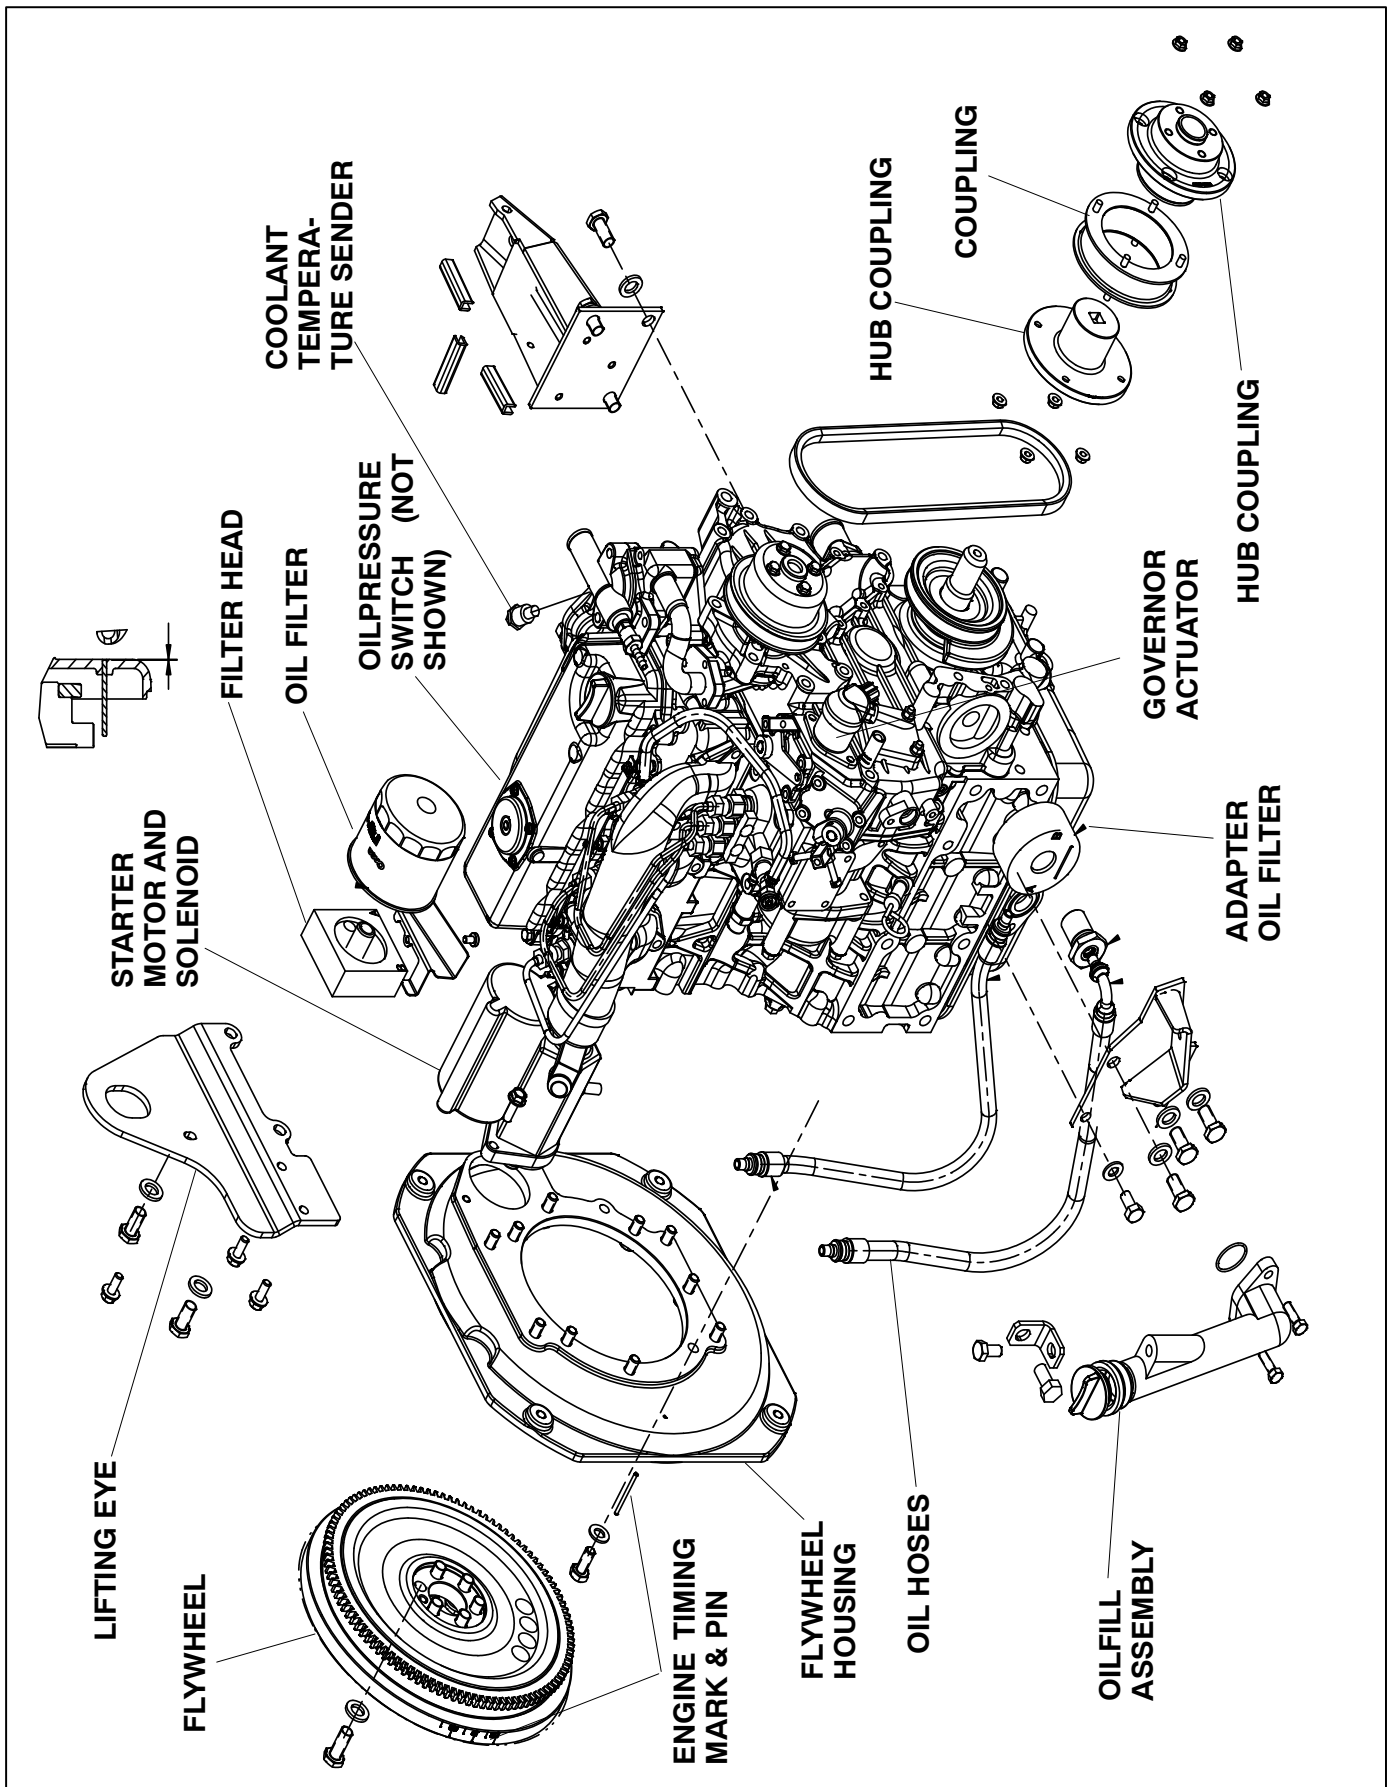
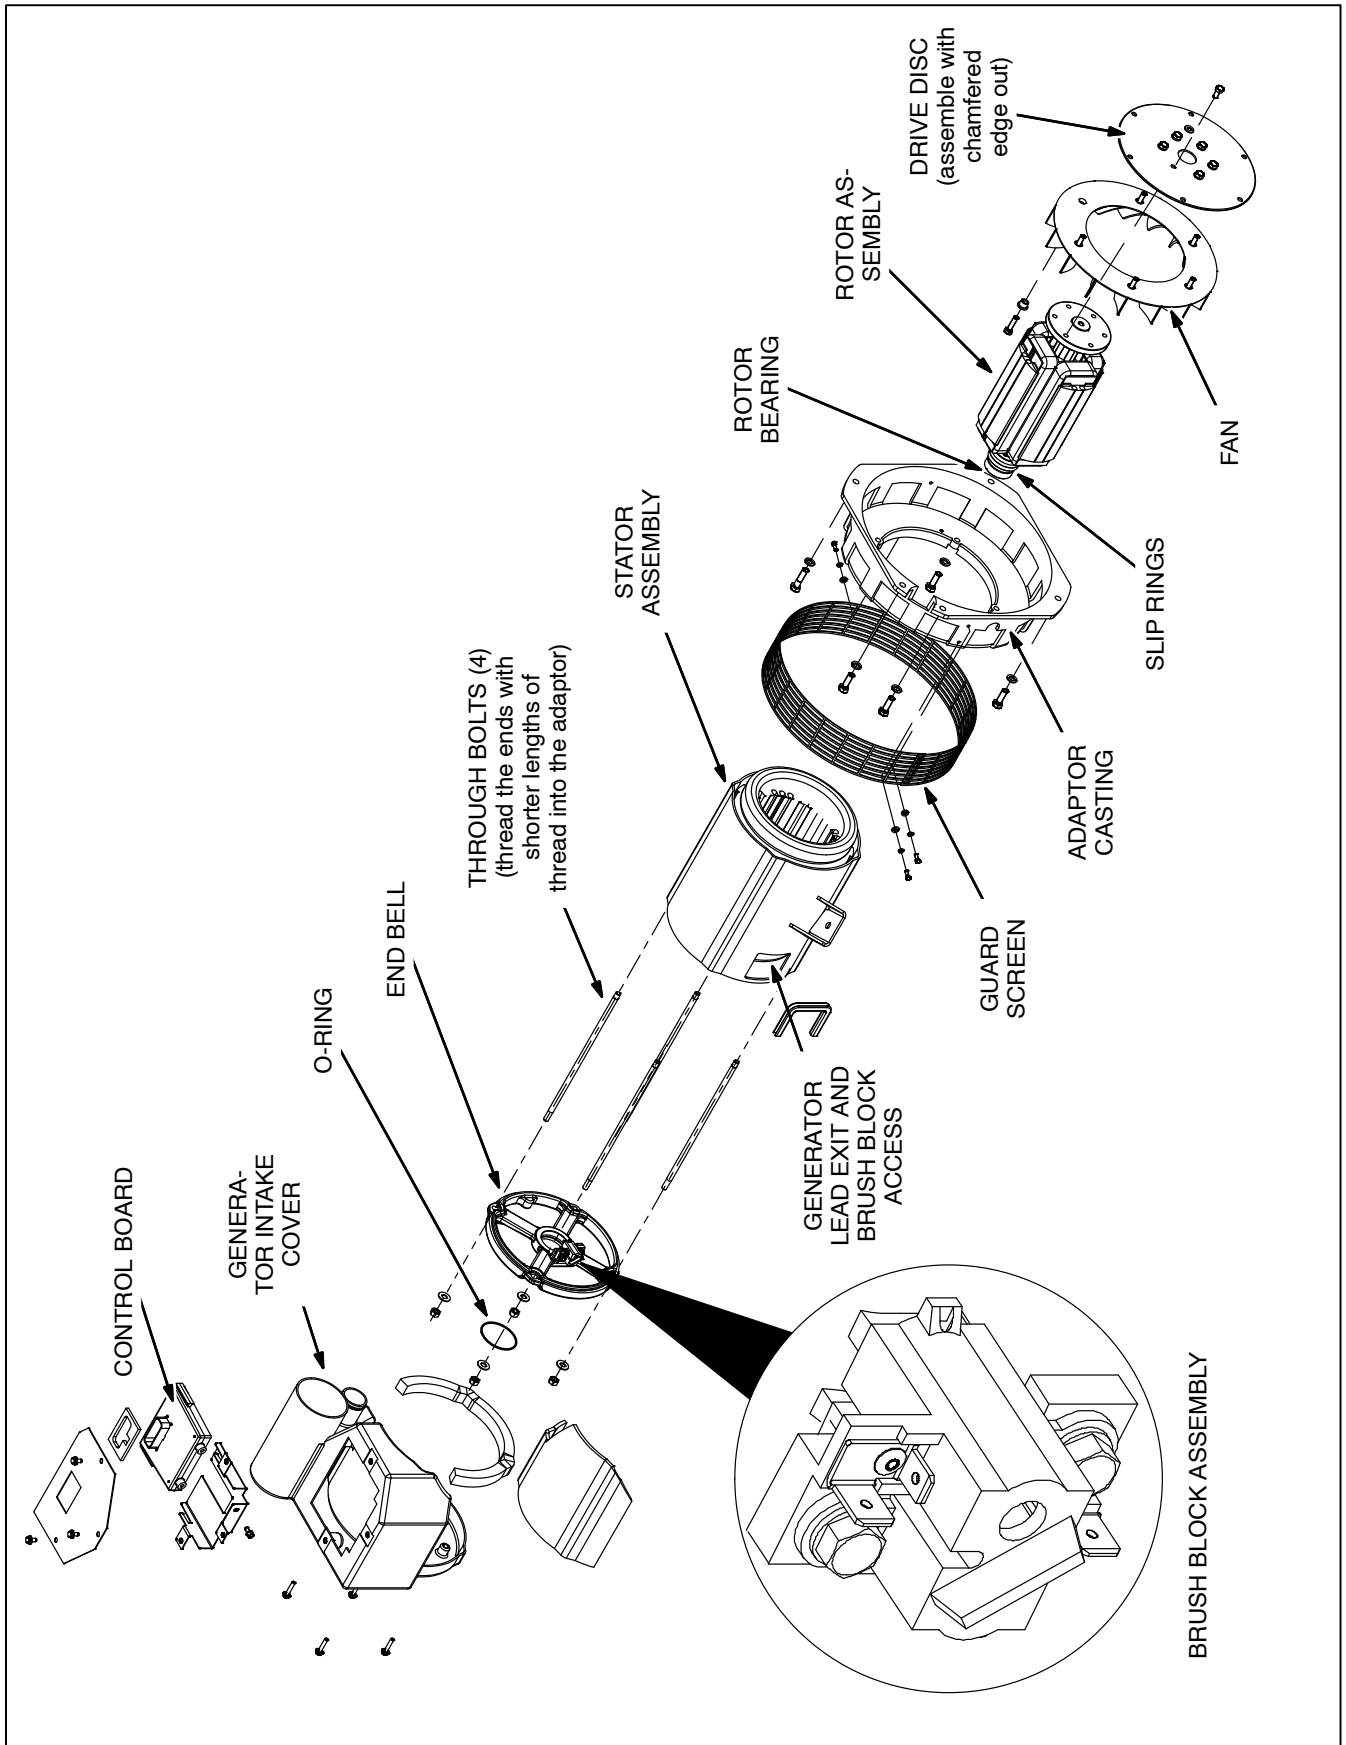

FIGURE 9-1. ENGINE AND ACCESSORIES
FIGURE 10-1. GENERATOR
The secondary belt has a spring tensioner (Figure 9-1).
The engine-generator-muffler assembly and wiring harnesses can be removed as an assembly from the generator set if it is necessary to remove either the engine (Figure 9-1) or the generator (Figure 10-1). To do so:
The engine is equipped with a coolant temperature sender and low oil pressure cutout switch (Figure 9-1). The associated fault codes (Section 12. Troubleshooting) are as follows:
1. Remove the air inlet assembly (Figure 10-1).